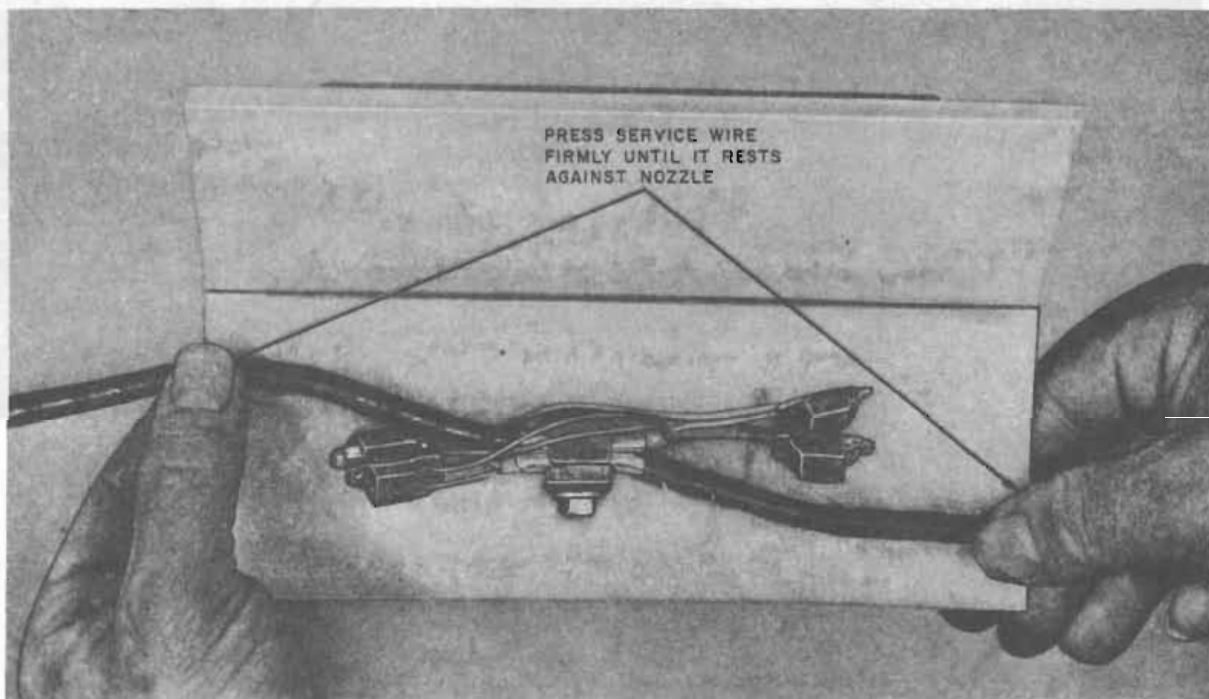

Fig. 49—Straight or In-Line Splice Placed in 15-Type Closure
13.11 The procedure for placing the spliced service wire in the closure are shown in Fig. 49, 50, and 51. Enclose as outlined in Section 629-760-202.